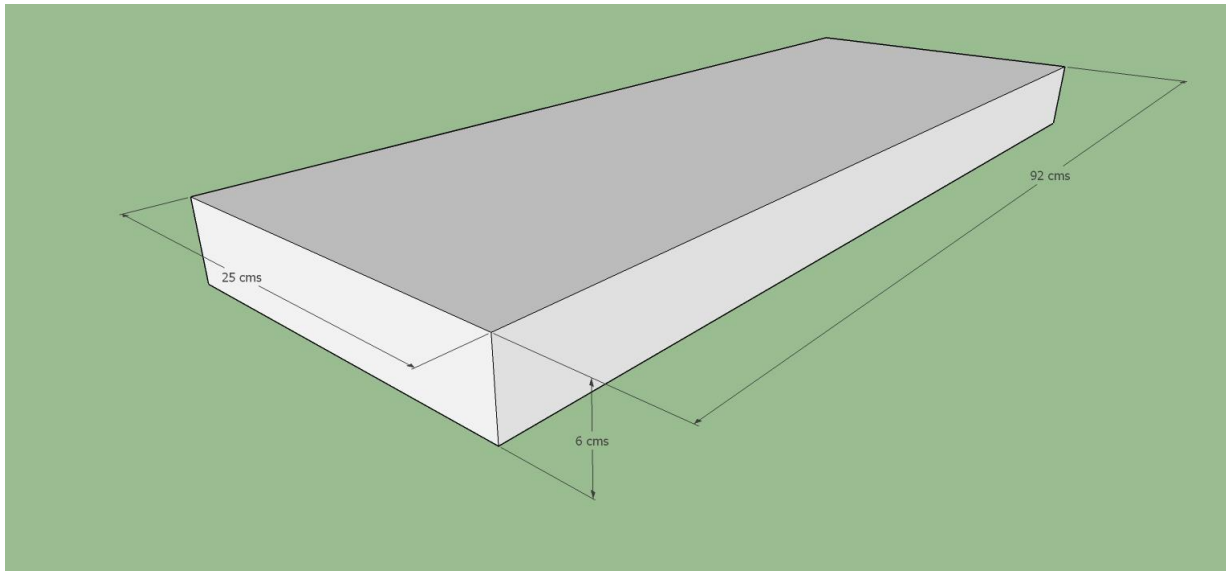

Figure 9: Base Station Thermocol Cut-out
- Cut a thermocol sheet of dimension **92cm x 25cm x 6cm** for Base Station as shown in Figure 9.